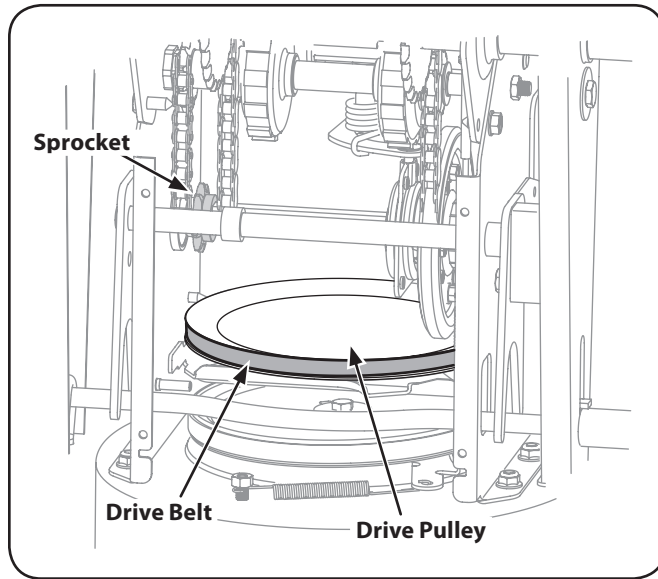

Figure 7-7
7. Slip the drive belt off the pulley and between friction wheel and drive pulley. See Figure 7-7.
NOTE: Make sure to install the gear shaft through the sprocket shown in Figure 7-7. If the sprocket fell from the snow thrower while removing the hex shaft, place the sprocket on the hex shaft. Position the hex hub of the sprocket toward the friction wheel when sliding the sprocket onto the shaft. See Figure 7-7.